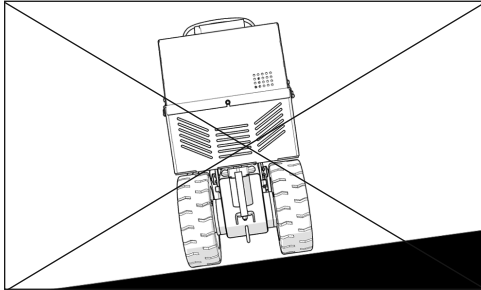

FIG. 3
**WARNING:** MACHINE HAS A SWIVEL FRONT CASTER. NEVER SIDE HILL (FIGURE 3) THE MACHINE ON A INCLINE WITHOUT POWER, THE FRONT CASTER WILL CAUSE MACHINE TO SWING TO THE LOWEST POINT. IF IT IS NECESSARY TO RUN MACHINE ON AN INCLINE, RUN MACHINE ON CUTTING HEAD. PLACE AT LEAST A 8" CUTTING HEAD IN MACHINE. TO KEEP FROM DAMAGING FLOOR, CLAMP A PIECE OF CARPET INTO CUTTING HEAD. THIS WILL GIVE POSITIVE CONTACT WITH THE FLOOR WHEN POWER IS DISENGAGED FROM THE WHEELS.